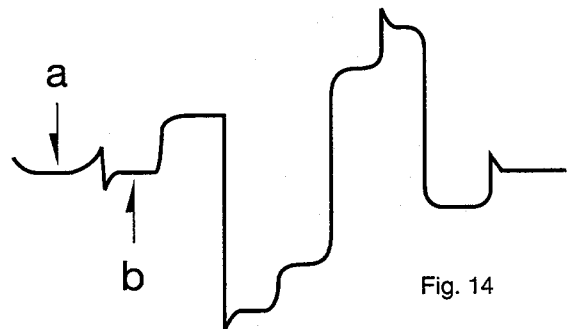

Fig. 14
3. Connect Syncroscope at TP1205 (Red) and adjust T1203 to obtain the waveform as same as FIG. 14 (a & b at the same level).